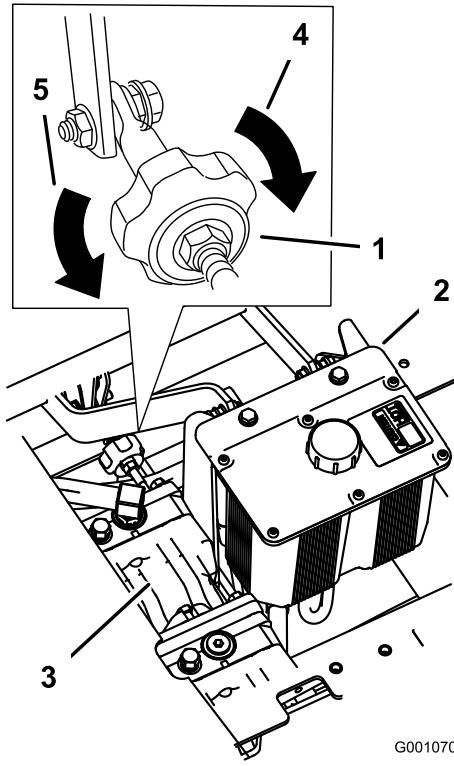

Figure 49
4. To make the machine go right, turn the knob towards the rightside of the machine. Refer to Figure 49.
5. To make the machine go left, turn the knob towards the leftside of the machine. Refer to Figure 49.